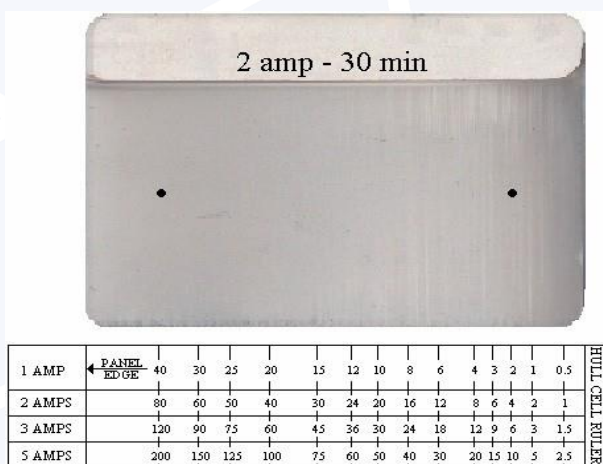

Figure 5
4. Using a Hull cell ruler, take thickness readings at 4 ASF (0.43 ASD) and 80 ASF (8.64 ASD). See figure 5.